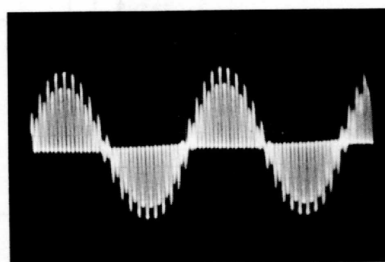
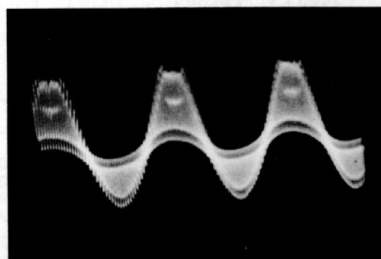

Figure 9. Demodulated Stereo Output From Properly Aligned Tuner
Figure 10. Demodulated Stereo Output From Poorly Aligned Tuner
9. Set oscilloscope to "+ INT" (internal sync). Adjust the oscilloscope controls to obtain a trace similar to that shown in Figure 9. Rotate the RF DEVIATION control throughout its range, noting the waveform on the oscilloscope. The 1000 cps signal will vary in amplitude, but should retain its waveform regardless of the setting of the control. Flattening of the sine-wave peaks, or "break-up", is an indication of probable poor alignment or insufficient bandwidth in the tuner. Figure 10 shows an example of the waveform obtained from a poorly aligned tuner.